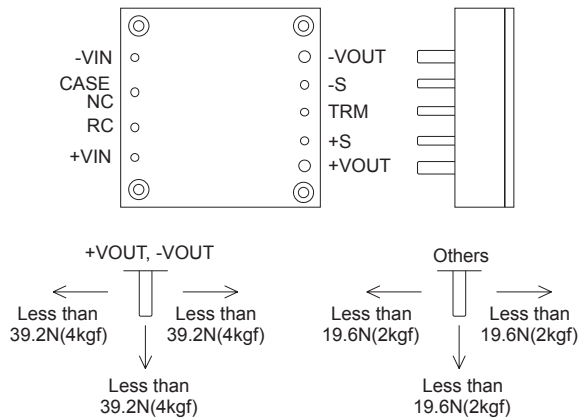

Fig.6.1 Stress onto Pins
■Applying excessive stress to the input or output pins of the power module may damage internal connections. Avoid applying stress in excess of that shown in Fig. 6.1.